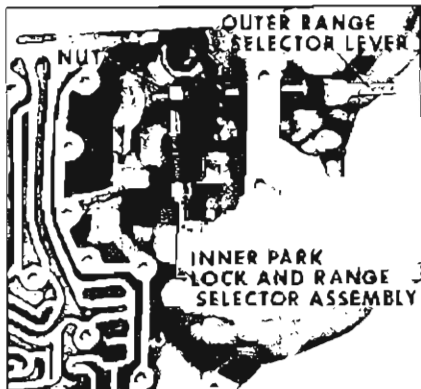

Figure 5-281
7. Install inner park lock and range selector assembly to outer range selector lever. Install nut on range selector lever. See Figure 5-281.